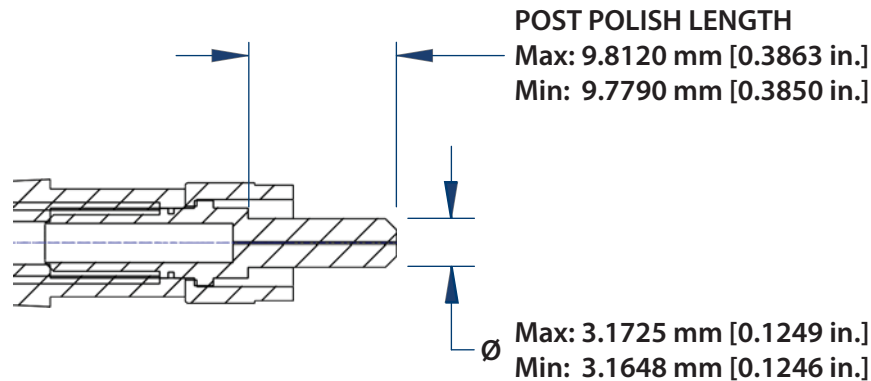

Figure 2-31. SMA 905 Connector Tolerances
- An SMA 905 connector; tolerances are illustrated in Figure 2-31.